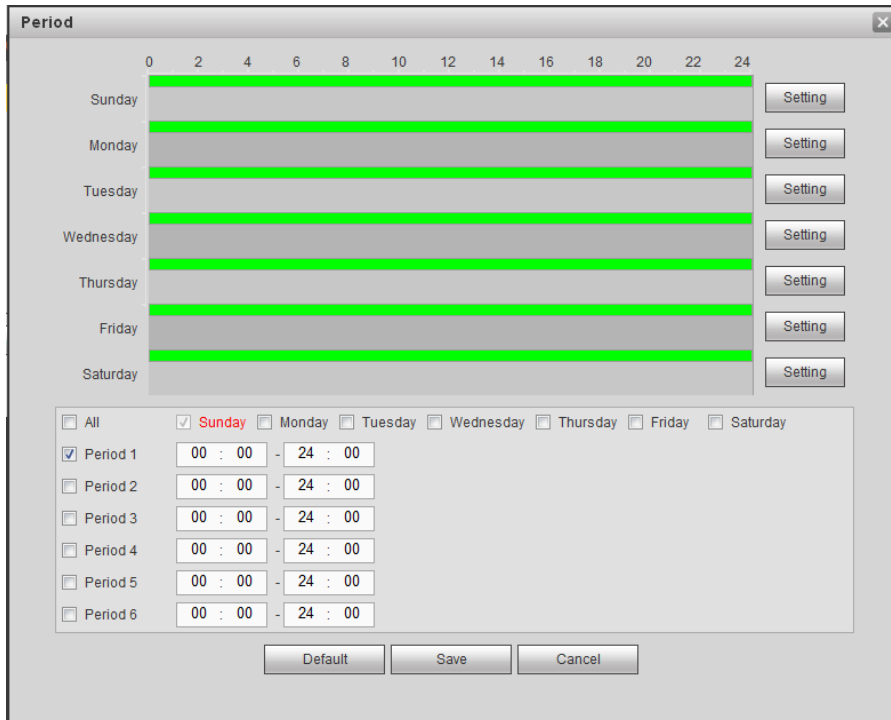

Figure 5-144
Step 3 Click the Set button after the period. It is to set valid period to use current account. See Figure 5-144.